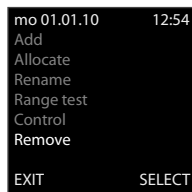

Fig. 1
- **Remove** - used to delete the actuator from the memory of RF Pilot (Fig. 1).